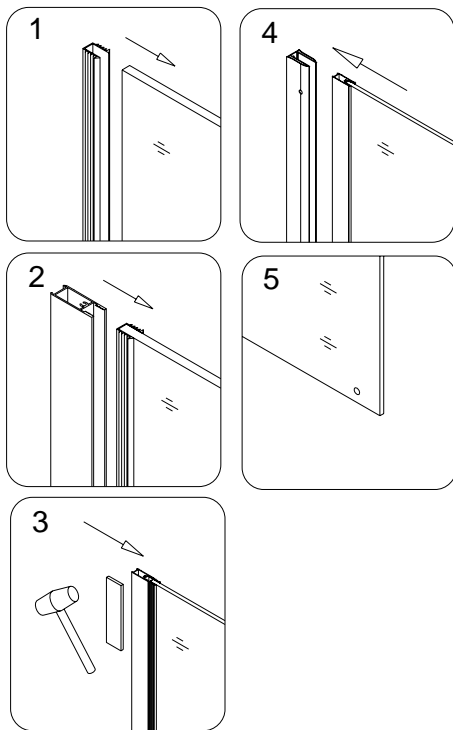

Fig 15A
15. Locate the **Stationary glass (22)**. Small hole on the short side of the stationary glass should be on the bottom and away from wall.
➤ If the thickness of your glass is 5/16" (8mm) place the **U-shape seal gasket (30)** on the long (vertical) side of the glass panel. Push the **Stationary glass (22)** into the **Glass profile (4)** by tapping on the profile side with a mallet. See Fig 15A for details.